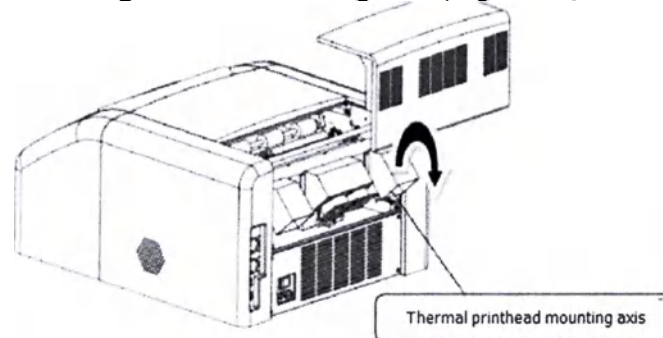

Figure 27 – Removing the thermal printhead
- Tilt the thermal printhead against the mounting axis (Figure 27);